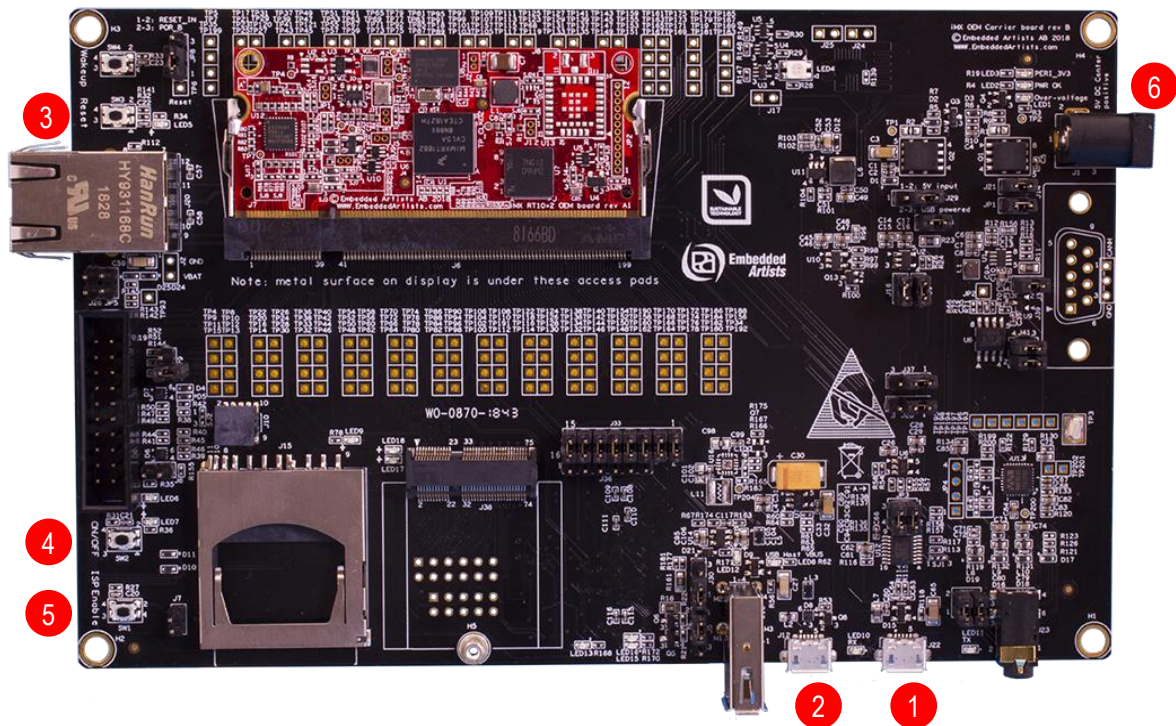

Figure 1 – iMX RT1062 Developer's Kit Top View
- One *iMX RT1062 COM* board mounted on one *iMX COM Carrier board*, rev B1, see Figure 1 below.
Figure 1 below illustrates the top side of the *iMX OEM Carrier board*. Some key components, relevant to get started, have been marked in the picture.
Begin by connecting the micro-B USB connector to position 1) in Figure 1 above. Connect the other end of the USB cable to the PC. The pre-loaded demo application will immediately start, showing some graphics on the LCD (on the bottom side). The demo application is described in more detail in section 3.
The board is normally powered from a PC/laptop via the included USB cable (micro-B to A cable) when connected to position 1) in Figure 1 above. This setup will work in most cases. However note that not all PC/laptops can provide the needed current. A powered USB hub can be used in this case or an external power supply.